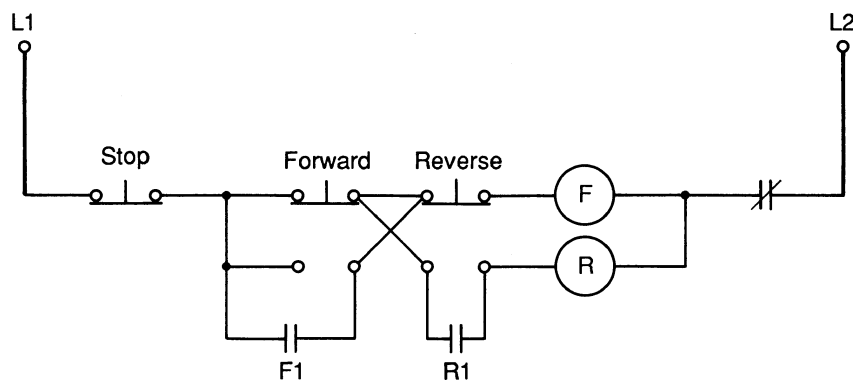

Fig. 5-15 Double-circuit push-button. Push-button interlocking.
Double-circuit pushbuttons can be used for pushbutton interlocking (Fig. 5-15). This type of interlocking depends on the electrical circuit for its operation. The idea is to make sure that both coils are not energized at the same time.
Note that the STOP button is normally closed in Fig. 5-15. That means that when the FORWARD button is pressed, coil F is energized and the normally open (NO) contact F_1 closes to hold in the forward contactor. Because the normally closed (NC) contacts are used in the forward and reverse pushbutton units, there